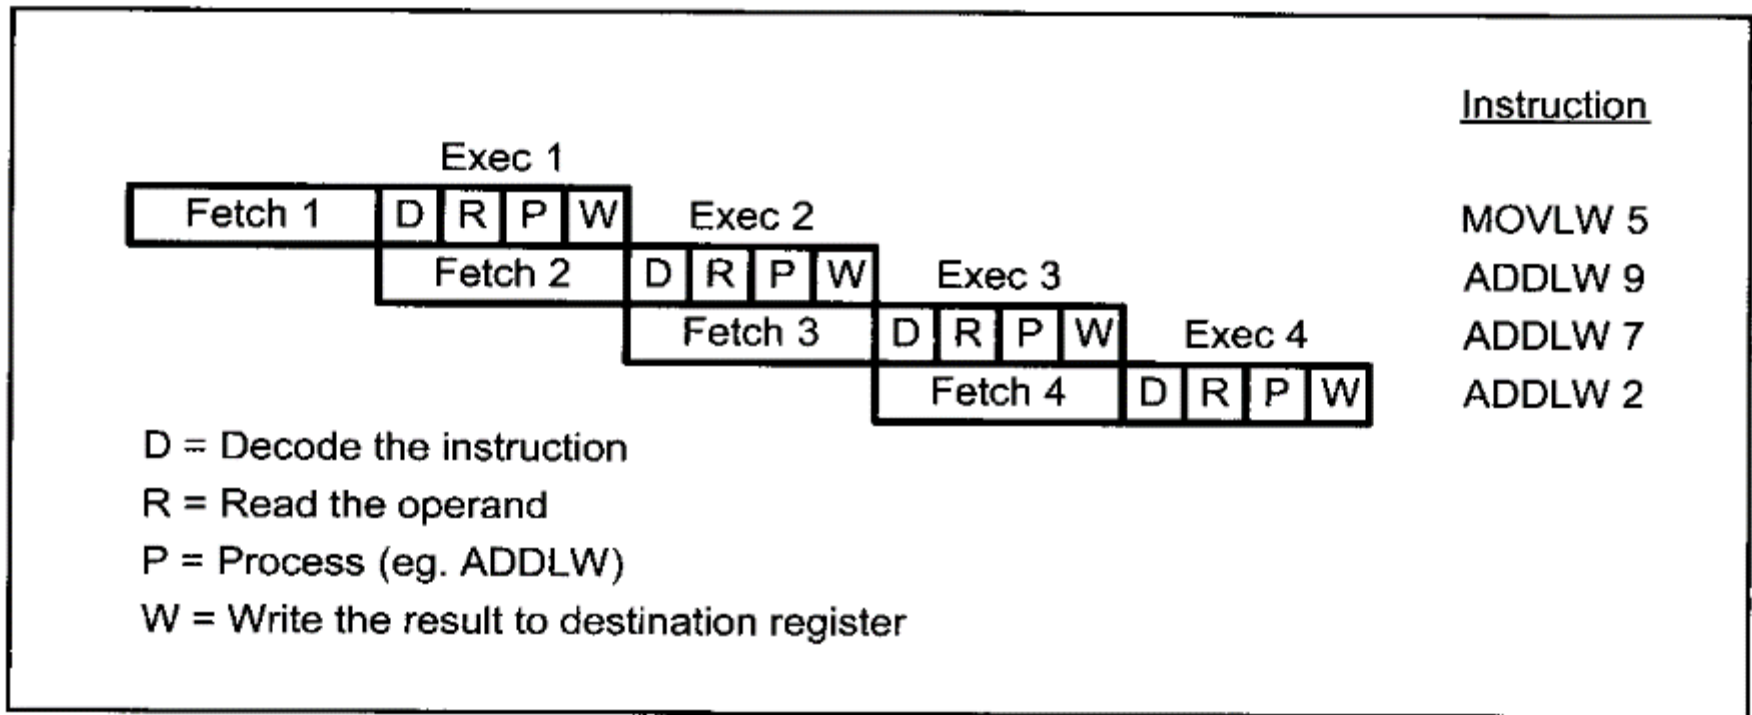

Figure 3-11. Pipeline Activity for Both Fetch and Execute
- The PIC superpipeline can be constructed as given in figure 3-11.